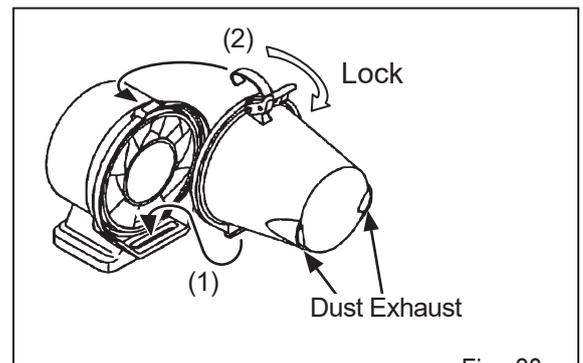

Fig. 28
- c. After cleaning Dust pot, install it certainly. (Fig.28)